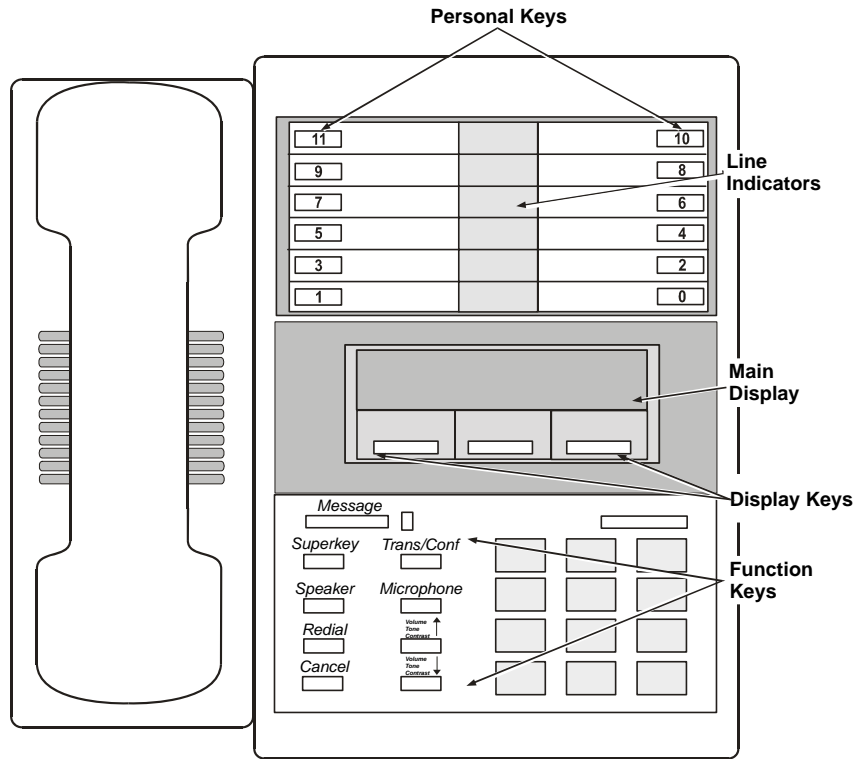
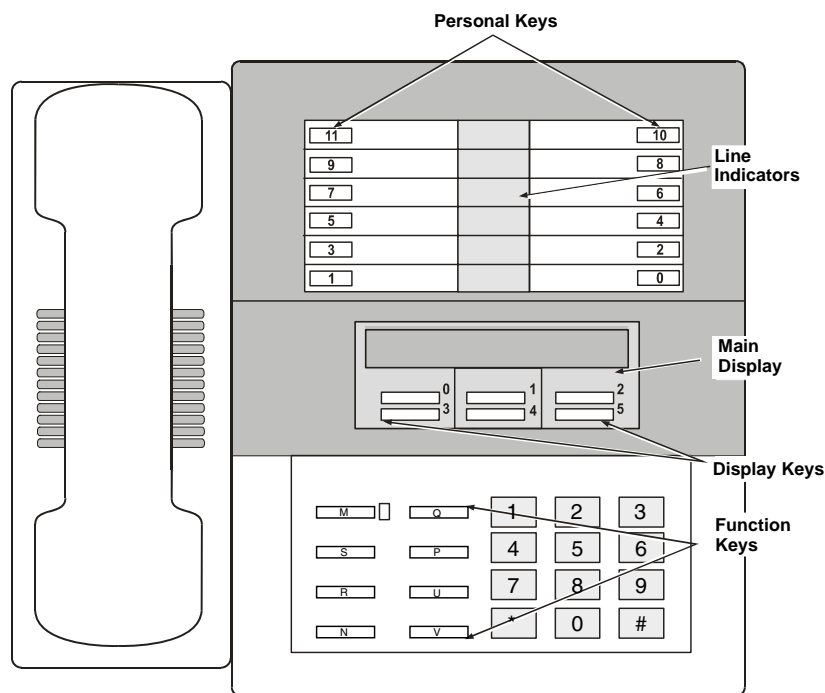

Figure 8. Mitel Superset 420 Telephone
Figure 9. Mitel Superset 430 Telephone
- Configure Personal Key 02 (see Figure 8) to act as an Attendant Console Message Waiting Indicator key.
Personal Key 10 should store the MWI OFF feature access code and Personal Key 11 should store the MWI ON feature access code (see Figure 9).
As seen in Figure 8 and Figure 9, there are 12 Personal Keys located on the top-right portion of Superset 420 and Superset 430 telephones. Some of these keys are configured when the PBX is programmed to select preassigned lines. Keys that are not configured can be defined by the user (using the telephone set or the Dialogic® PBX Integration Board) as speed dial or Feature Keys. There is an LCD Line Indicator associated with each Personal Key. The LCD indicators are triangular and can take on one of the six states listed in Table 15.
As shown in *Figure 8* and *Figure 9*, there are a number of Function Keys found to the left of the dial key pad on the Mitel Superset 420/430 telephones. The Dialogic® PBX Integration Board can emulate these keys to perform various operational functions.
As shown in Figure 8, there are three Display Keys or Soft Keys located below the LCD display on the Mitel Superset 420 telephone. These keys are associated with specific prompts shown on the LCD display depending on the current state of the phone.
As shown in Figure 9, there are six Display Keys or Soft Keys located below the LCD display on the Mitel Superset 430 telephone. These keys are associated with specific prompts shown on the LCD display depending on the current state of the phone.